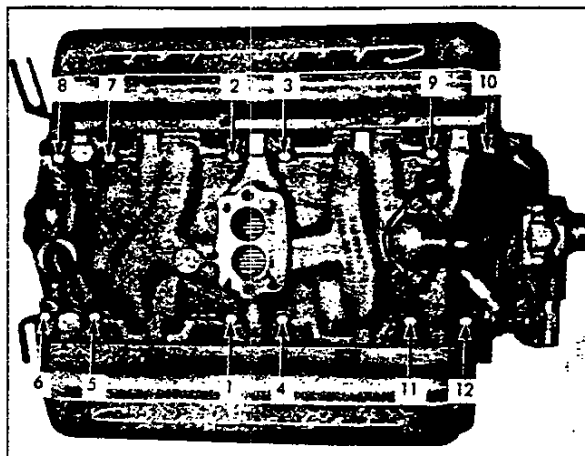

Fig. 18—Intake Manifold Bolt Torque Sequence (Typical)
5. Install manifold bolts, remove the pilot and torque in proper sequence (fig. 18) to a final torque of 25-35 ft. lbs.